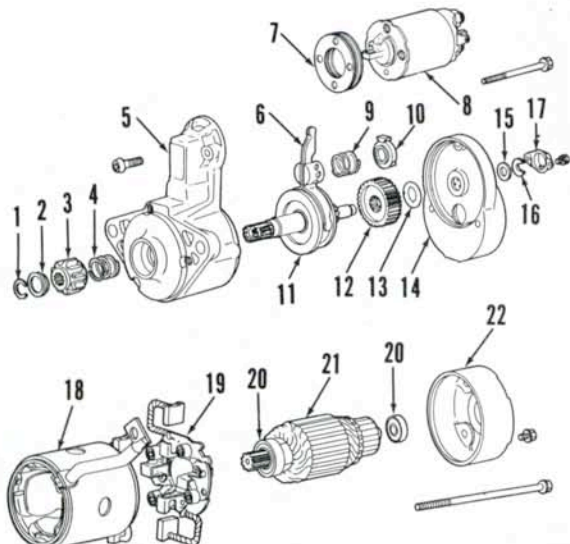

Fig. 163—Exploded view of starting motor and solenoid used on 1710 models.
98. Refer to Fig. 163 for an exploded view of starting motor and solenoid. Pinion shaft end play (P—Fig. 164) should
be 0.5-2.0 mm (0.020-0.080 inch). To check shaft end play, disconnect and insulate field coil wire from solenoid terminal. Engage solenoid by attaching jumper wires (1, 2 and 3) to locations indicated. Push pinion gear back to remove overtravel, then measure shaft movement. Add or remove shims (7—Fig. 163) to obtain recommended end play.